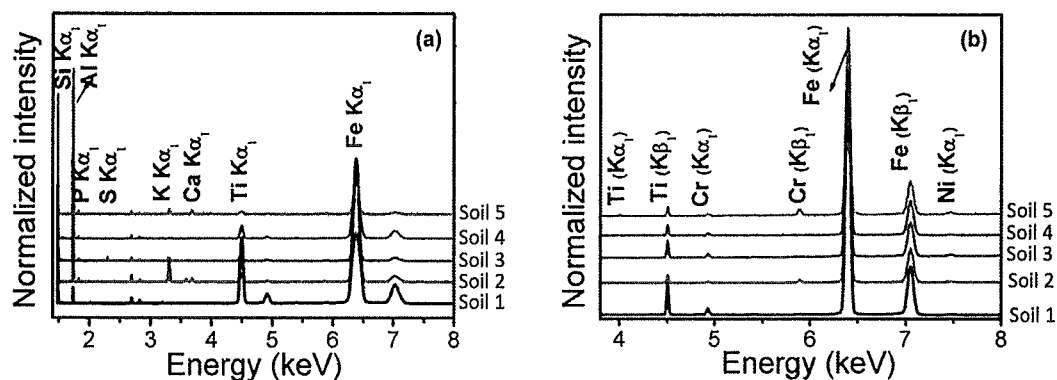

Figure 3
- [c] Figure 3 shows the elemental compositions of the types of soil from different origins using XRF. XRF spectra was characterized by two different analyzer crystals: (a) pentaerythrite (PET) and (b) lithium fluoride (LiF 200).
- (ii) Analyze XRF results from Figure 3.